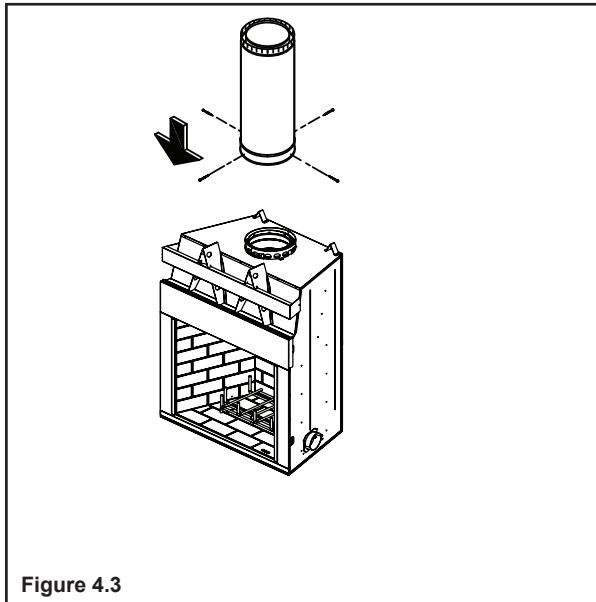

Figure 4.3
- Attach the first chimney section or offset onto the top of the fireplace (Figure 4.3). Sheet metal screws are required to connect chimney section to the fireplace starter collar. Continue to add additional sections of chimney as needed.